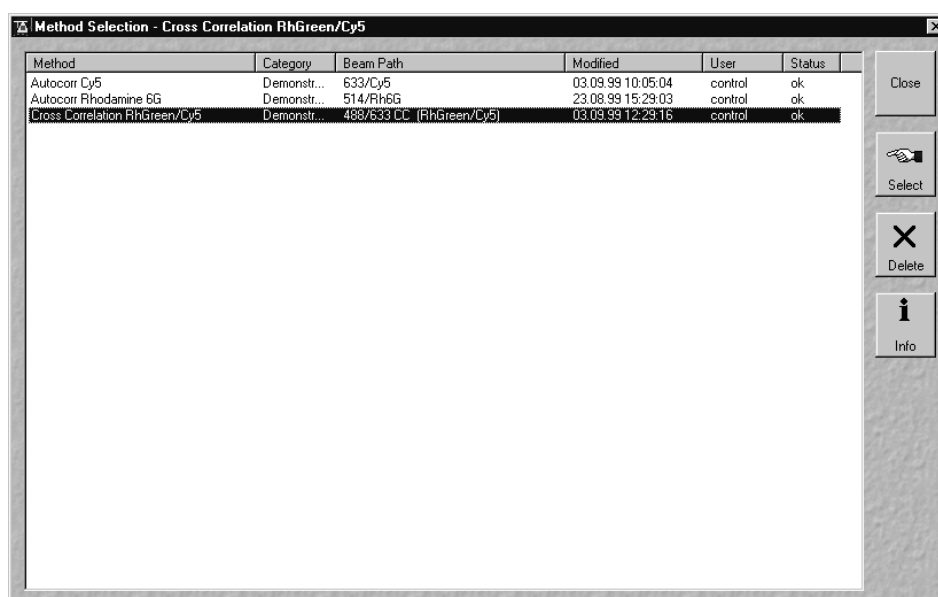

Fig. 5-163 Method Selection ... window
- This opens the **Method Selection ...** window (Fig. 5-163). The name of the currently selected method will appear in the status bar of the window.